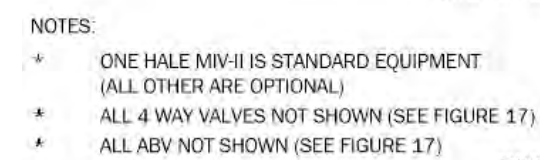

Figure 15. SAM Green CAN Buss Architecture (With Three SAM Control Centers) Diagram
Figure 15 shows the equipment (EOM/apparatus builder and Hale supplied) connected to the Green CAN buss (intake/inlet valves, sensors, and warning annunciation). Additionally, the diagram shows the data path(s) to the SAM Control Center(s) and the remote SAM tablet along with the equipments supplied power and secure Wi-Fi connections.
- * ONE HALE MIV-II IS STANDARD EQUIPMENT (ALL OTHER ARE OPTIONAL) (SEE FIGURE 15)
- * ALL 4 WAY VALVES NOT SHOWN (SEE FIGURES 15 AND 17)
- * ALL ABV NOT SHOWN (SEE FIGURES 15 AND 17)